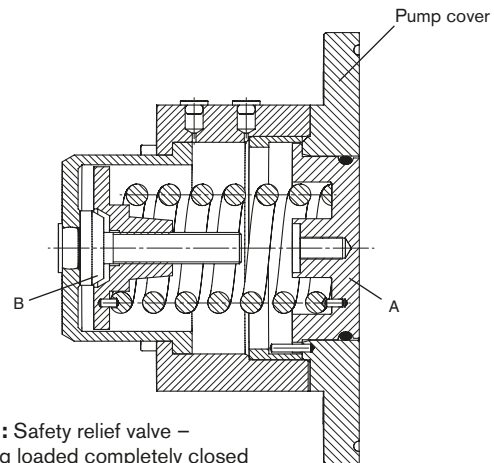

Fig 1: Safety relief valve – Spring loaded completely closed
Fig. 1 and 2 are showing the design of the spring loaded safety relief valve. The valve head (A) is subjected to the fluid pressure in the rotor case on one side and by spring force on the other side. The spring is acting directly on the valve head.
Fig. 1 shows the safety relief valve completely closed. The valve head (A) is in line with the front face of the pump cover. The valve has been adjusted by compressing the spring via the spring adjusting screw (B).